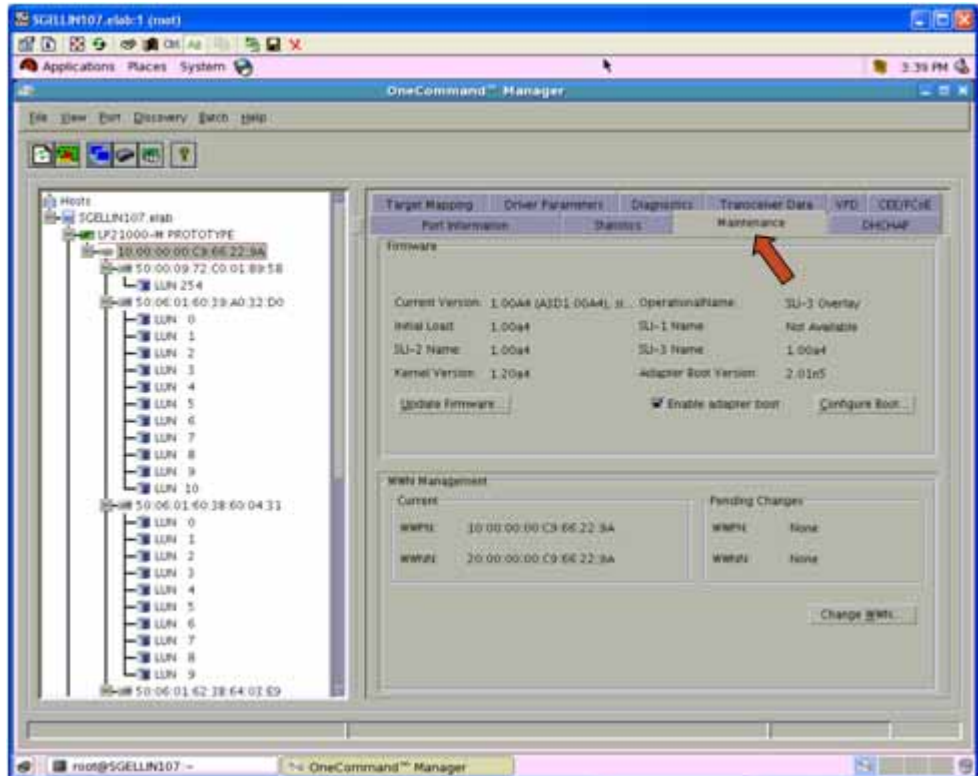

Figure 7 Firmware update interface for Emulex FCoE CNA
- ◆ For HBA or FCoE CNA, the button to invoke a firmware update process is under the **Maintenance** tab on the right pane of each port interface, as shown in Figure 7 on page 105.